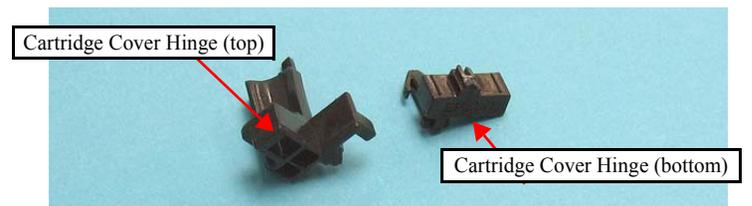

Figure 7-47. Cartridge Cover Hinge
4. Release the hooks of the lower half of the Cartridge Cover Hinge with tweezers, and remove the lower half of it. (See Figure 7-47)